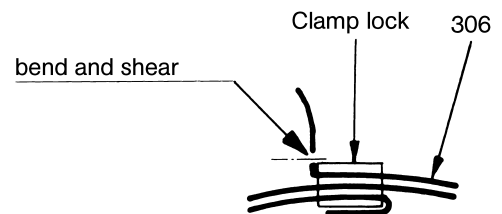

Figure 12: Bending and shearing of the clamping band.
Note: In case of clamping bands of Hastelloy material, shearing with the clamping tool is not possible. After bending at the clamping band lock, the clamping band must be sheared by means of sheet metal shears and the cutting edges deburred (please refer to Figure 12 below).
- When using clamping tool Pok-It II, bend clamping band (306) after clamping at the clamping band lock by swinging the clamping tool so that the band cannot glide back through the lock. After bending at the clamping band lock, the clamping band must be sheared with sheet metal shears and the cutting edges deburred (please refer to Figure 12 below).
ATTENTION Check whether the clamping band is bent so that it cannot glide back through the clamping band lock (please refer to Figure 12 above). If this was not achieved, the clamping band must be removed and replaced by a new one.